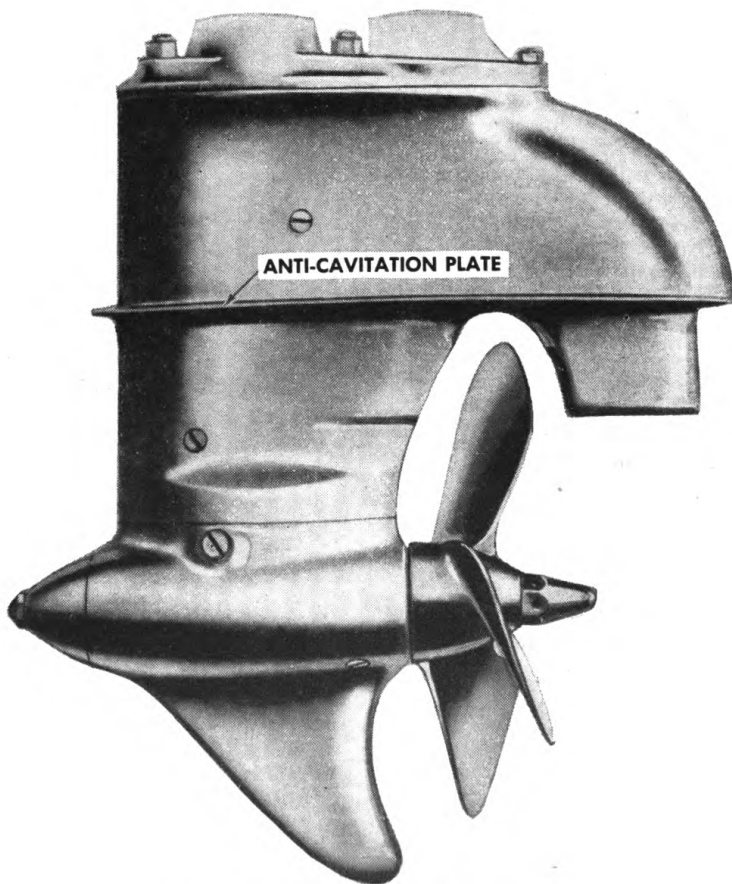

Figure 10. Anti-cavitation plate.
j. **CAVITATION.** The formation of a vacuum at the propeller is known as cavitation and occurs when a pocket of air has been sucked down by the propeller, causing it to spin in the air bubble and causing the engine to race. This action usually is caused by using a propeller of too great pitch, which keeps the motor from running at its most efficient speed and causes the water to be pushed aside faster than it flows in. This can be corrected by selection of a smaller-pitch propeller. Outboard motors have an anticavitation plate, as shown in figure 10, to